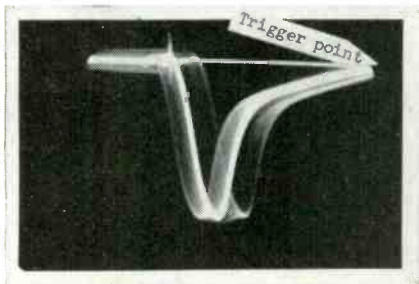

Fig. 6—Difficulty of synchronization is shown above with sine-wave sweep.
A. Synchronization is sometimes a problem when sawtooth sweep is used, as illustrated in Fig. 6.